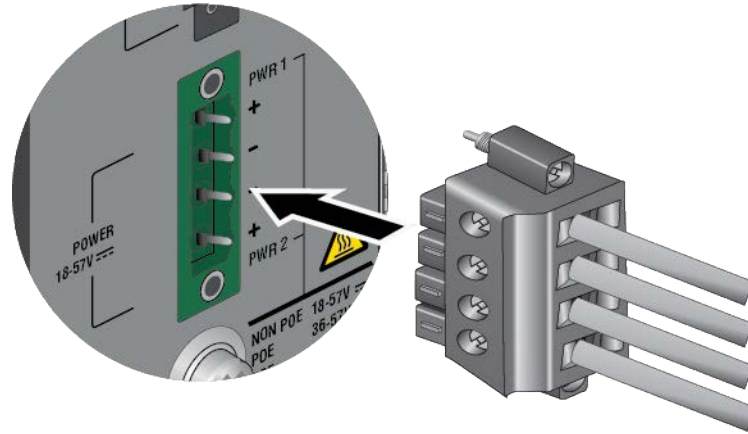

Figure 60. Inserting the POWER Plug into the POWER Connector
2. Insert the POWER plug into the POWER connector on the front panel. Refer to Figure 60 on page 112.